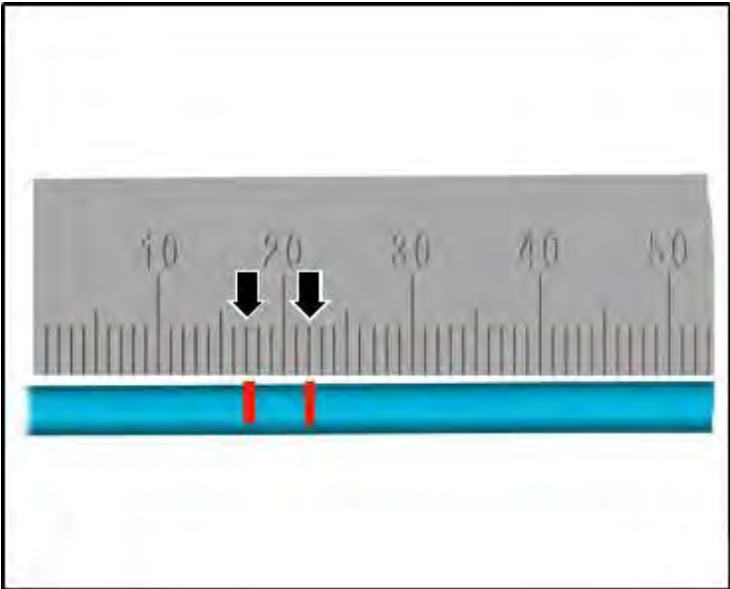

Figure 14
- Use a waterproof pen to mark the ends of the x4 pipes, use 17mm/22mm marks (Figure 14) to confirm the pipes have been properly inserted into the connection piece